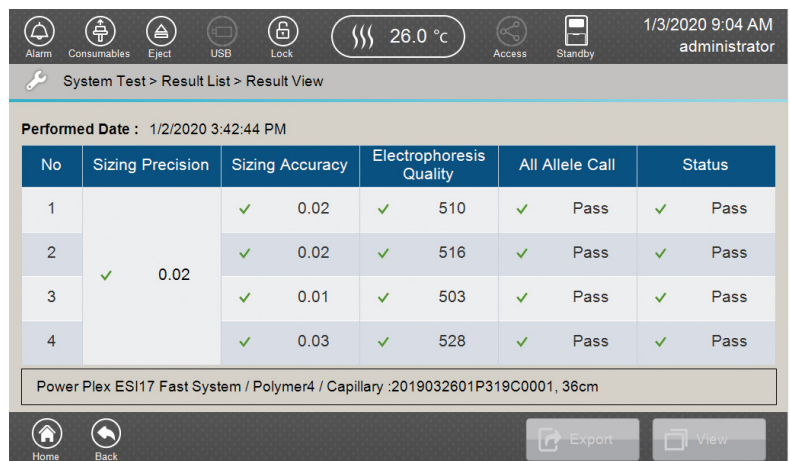

Figure 225. Fragment System Test 'Result View' screen.
3. Select **View** in the footer to review the detailed results of the system test in the 'Result View' screen (Figure 225). **View** and **Export** do not become active until a sample is selected.
4. Select **View** in the footer to view the list of four samples in that system test in the 'Result View' screen (Figure 225).